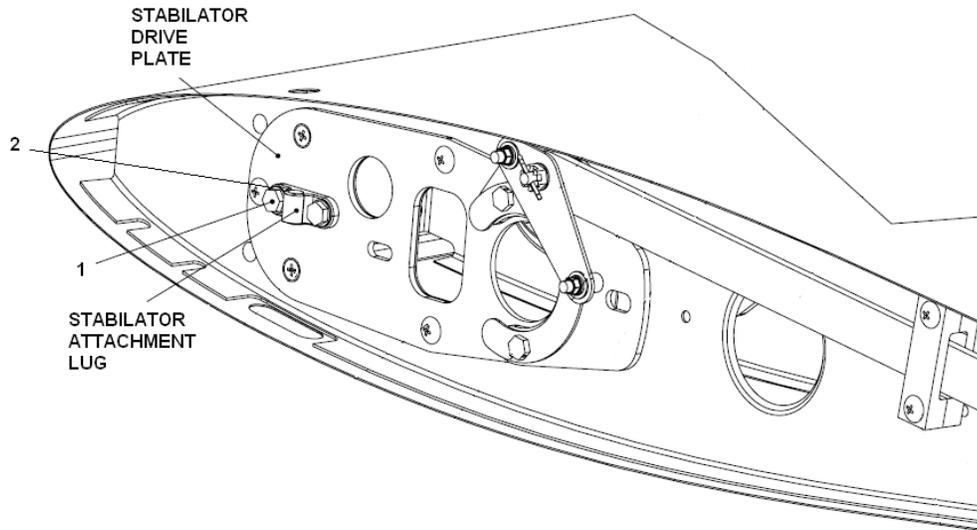

Figure 55-2 Stabilator (Tailplane) Attachment Lug
2. Install stabilator attachment lug using 2 bolts (1) and washers (2). See Figure 55-2.